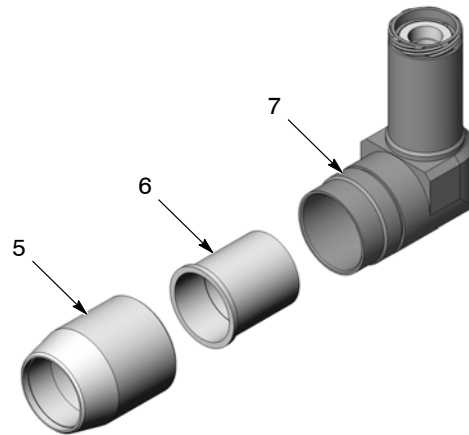

Figure 4 Removing Body and Retainer Nut
3. See Figure 4. Unscrew the body nut (5) from the extension (7). Pull the retainer nut (6) out of the extension.